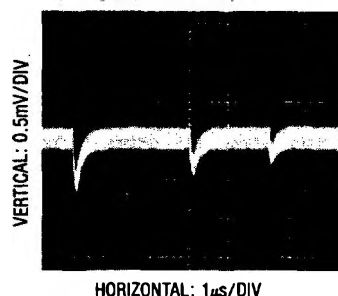

Figure 15. Adequate Reference Settling
2. Transients on the reference inputs caused by the capacitive switching currents must settle completely during each bit test (each 4 ACLK cycles). Figures 15 and 16 show examples of both adequate and poor settling. Using a slower ACLK will allow more time for the reference to settle. However, even at the maximum ACLK rate of 2MHz most references and op amps can be made to settle within the 2μs bit time.